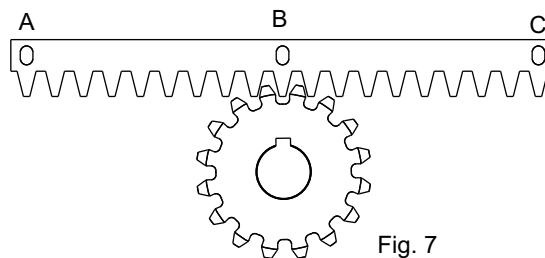
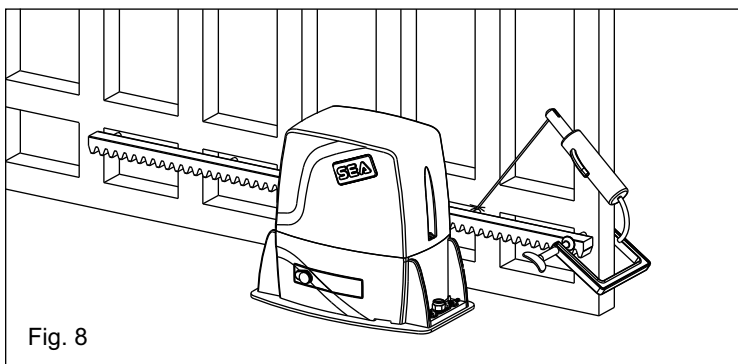

Fig. 7
Fig. 8
5.3. Lean the gear rack element on the toothed pinion of the motor in parallel to the ground slideway of the gate, as shown in Fig. 7 and electrically weld the central pawl B to the gate structure (Fig. 8).